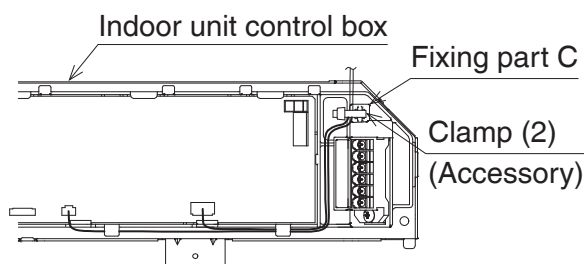

Figure 20
5. Secure relay harnesses (3) and the signal wire (grey) to fixing part C inside the indoor unit control box using clamps (2). (Refer to **Figure 20**.)